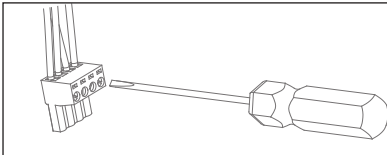

Figure 1:
3. Strip approximately .1875" (5mm) of the insulation off each wire. Insert the wire into the correct square opening on the connector. Use a small flat head screwdriver to tighten the corresponding screw to secure the wire (see Figure 1).